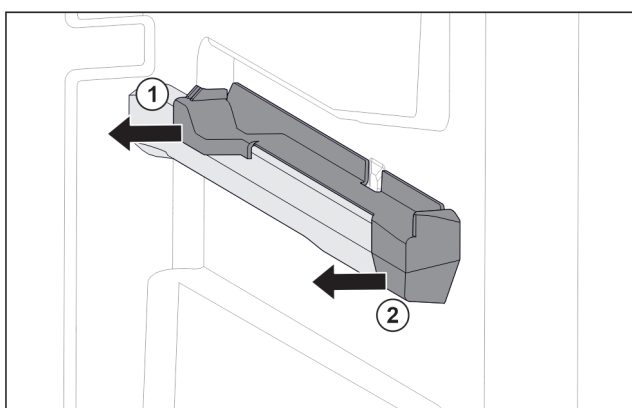

Fig. 80 Attachment on the right moulded rib
- Pull off attachment at the back sideways. Fig. 80 (1)
- Pull off attachment at the front sideways. Fig. 80 (2)